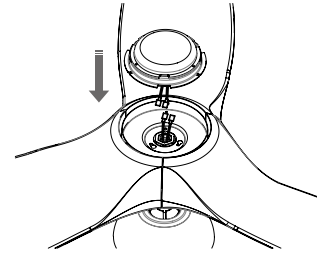

FIGURE 21
2. Raise and hold the LED luminaire module close to the adapter plate and proceed to secure the wire connections. Connect the white wire connector from the luminaire module to the white wire of the fan. Follow the same procedure with the black wire connectors (Fig. 21).